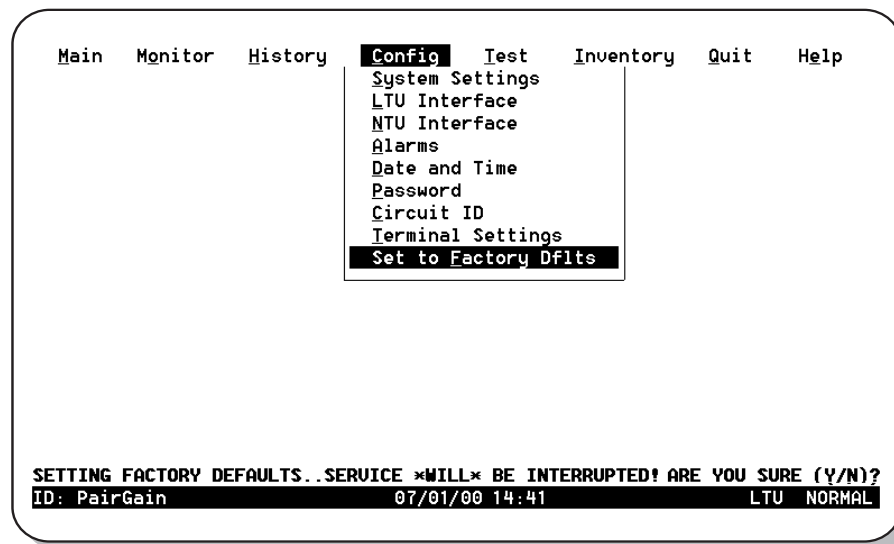

Figure 28. Set to Factory Defaults Screen
- 1 Type **F** at the *Config* drop-down menu to display the *Set to Factory Dflts* screen (Figure 28).